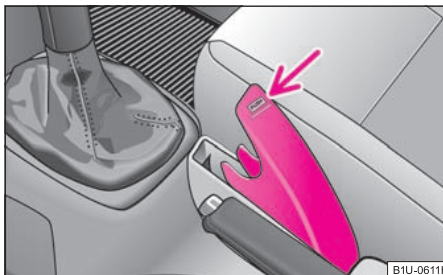

Fig. 94 Centre console: Storage compartment for spectacles
- Press on the cover of the storage compartment at the point of the arrow, the compartment opens or closes ⇒ fig. 94.